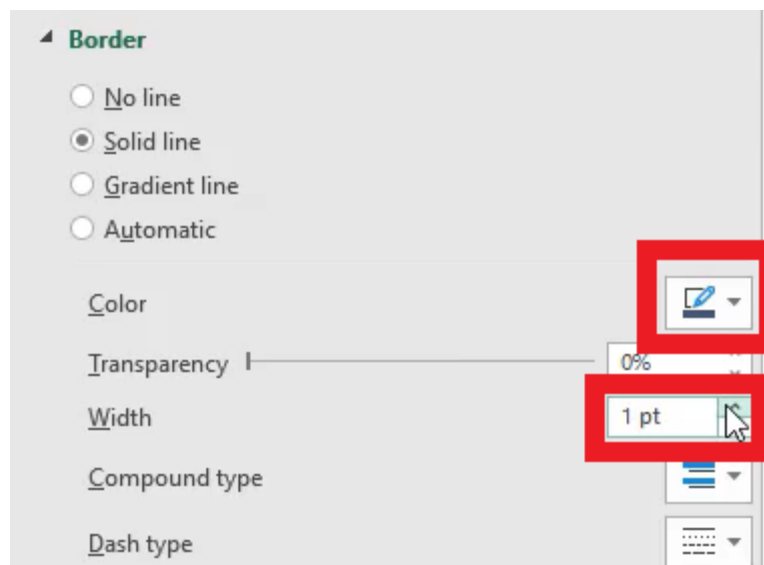

Figure 37.7
6. Change the color to dark blue and set it at 1 pt. (See **Figure 37.7**)